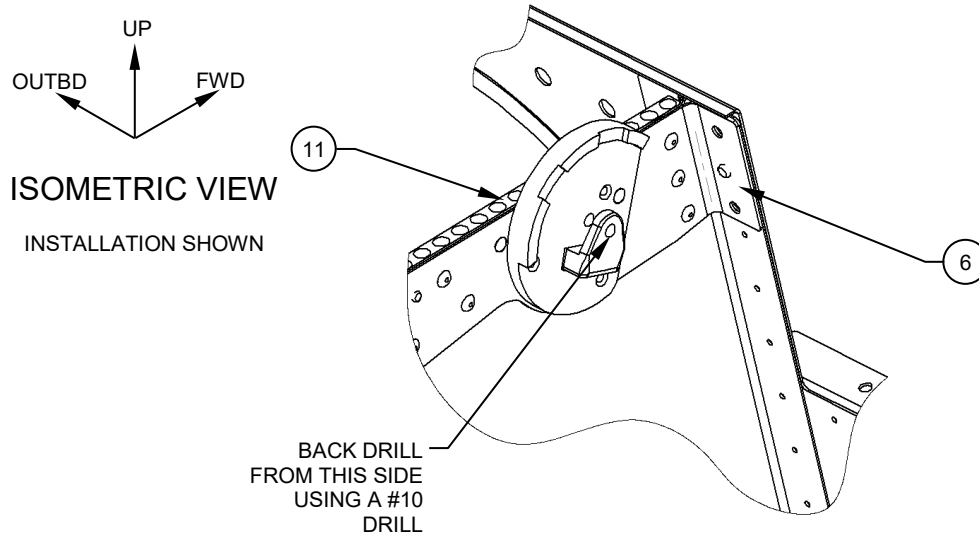

Figure 27
5.3. Temporarily install the OEM defrost fitting using cleco's. Back drill from the OEM fitting axle hole thru the RHS Angle, Assy, (Item 6), using a #10 drill. This should create a small notch on the lower edge of the Dzus Rail, Detail, (Item 11). See Figures 27 & 28.